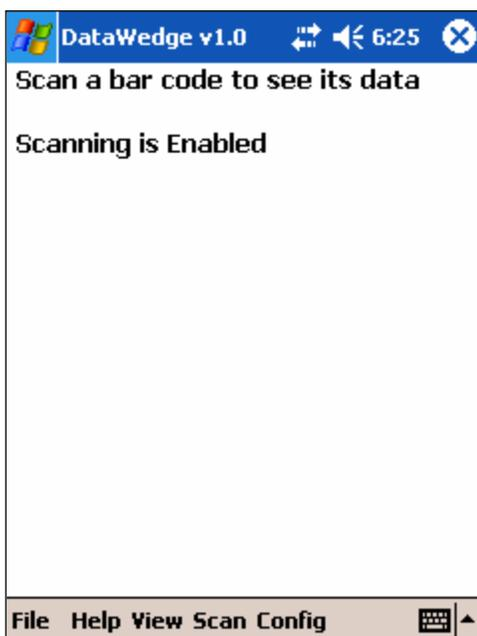

Figure 2
In normal use, DataWedge presents no User Interface (UI) and all scanned barcodes are sent to the foreground application via keyboard messages. DataWedge can display a main window by tapping the icon on the system tray and then tapping “Launch” or by launching DataWedge when it is already running. See Figure 2. DataWedge can display various dialogs to allow configuration of program options. DataWedge includes a Test Window that displays the scanned barcodes rather than sending them as keyboard messages.